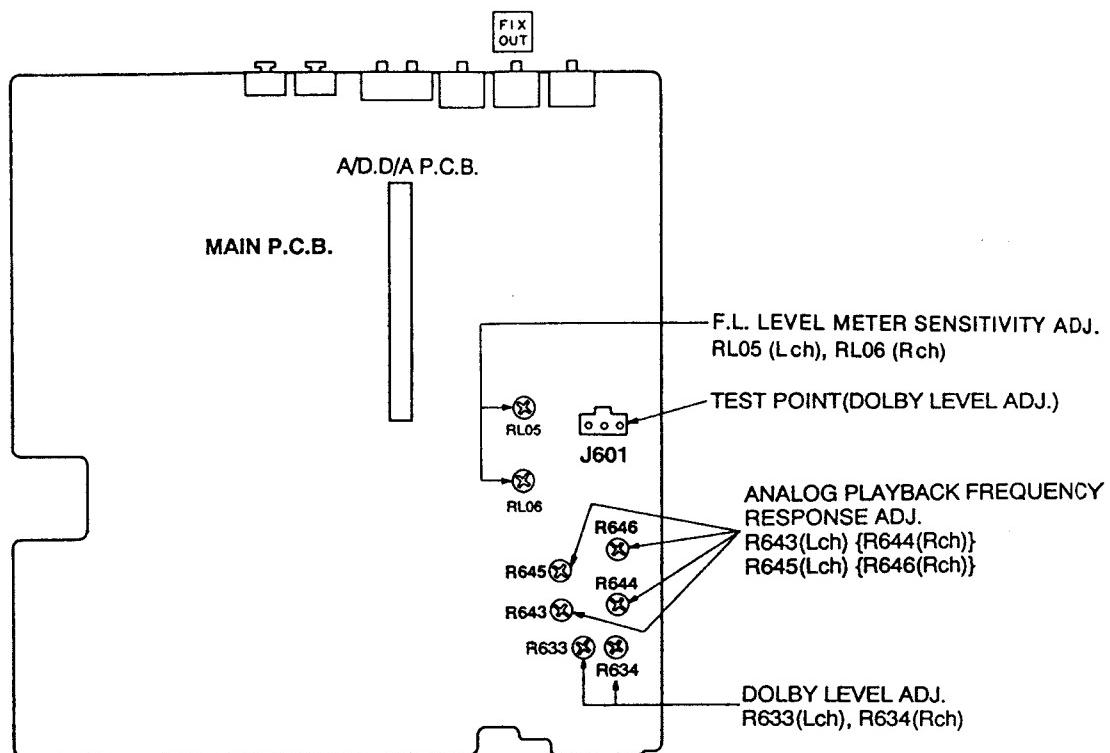

Fig. 25
- (1) While playing back the Dolby level tape (RFKZ0038), adjust the voltage at test point J601 to 33mV using R633 (Lch) and R634 (Rch) (See Fig. 25).
(See Fig. 25)
- (1) Load a DCC Blank tape (RFKZ0033) in the unit under test and place it in REC PAUSE mode.
- (2) Load the CD Test disc (SZZP1054C) in the CD player and play the second band (1kHz, 0dB, L+R signal).
- (3) Adjust potentiometers RL05 (Lch) and RL06 (Rch) so the DCC unit's FL level meters indicate 0 to -2dB (See Fig. 25).